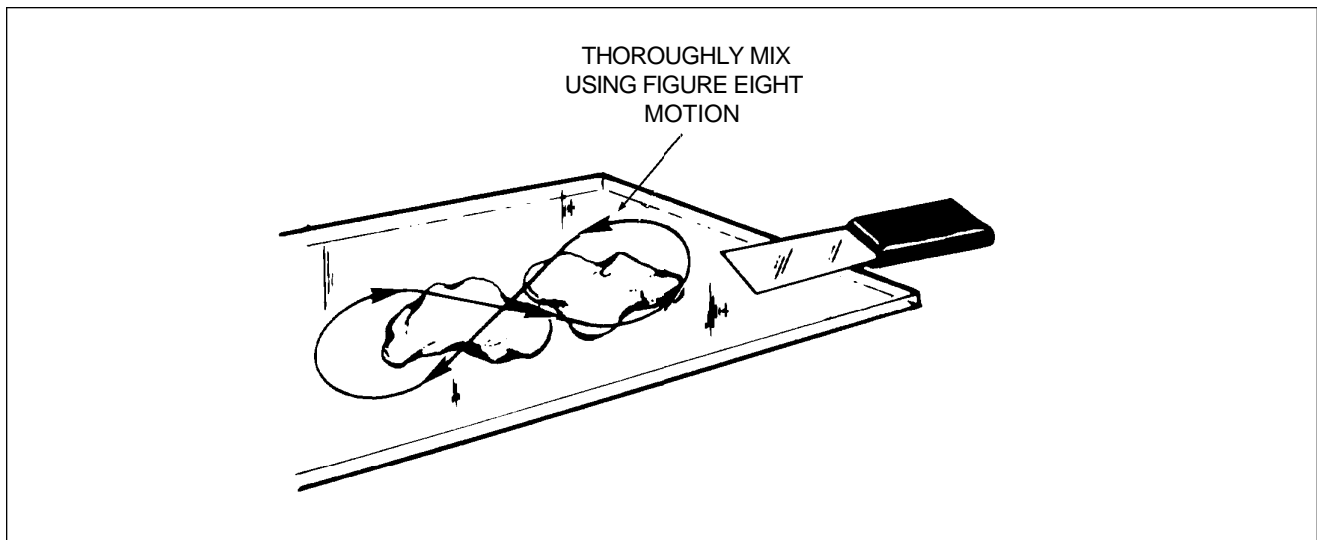

Figure 51-4. Mixing of Epoxy Patching Compound
- f. The patching compound is mixed in equal portions on a hard flat surface using a figure eight motion. The damaged area is cleaned with perchlorethylene or VM & P Naptha prior to applying the compound. (Refer to Figure 51-4.)